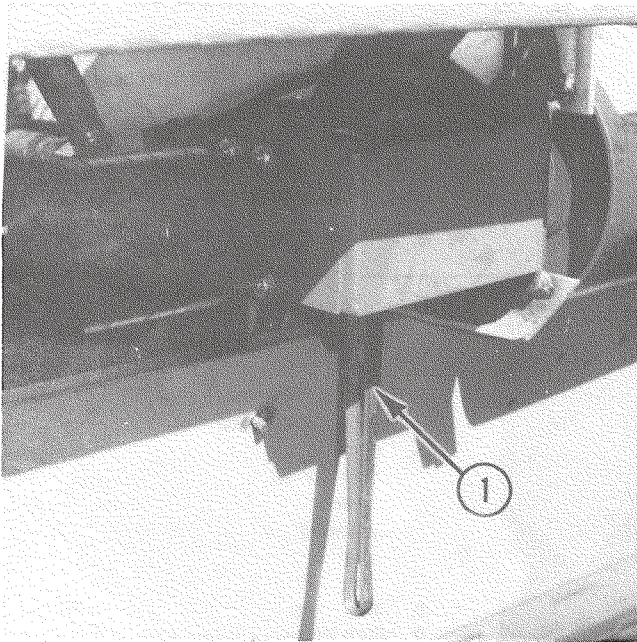

Figure 26. Lock Left Conveyor Head Pulley
b) Hold (lock) the left conveyor head pulley with a pipe wrench or other suitable tool. (Fig. 26)